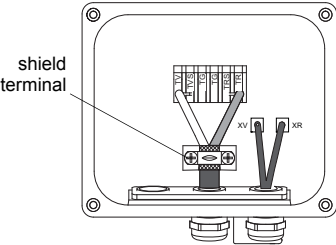
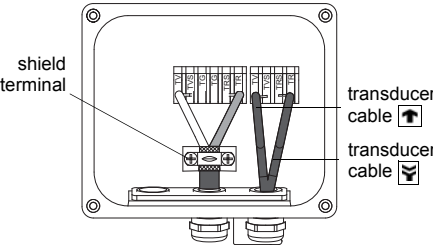

Fig. 5.7: Junction box JB02, JB03
Fig. 5.8: Junction box JBP2, JBP3
- Pull the extension cable back until the brushed back external shield is below the shield terminal of the junction box (see Fig. 5.7 or Fig. 5.8).
- Fix the extension cable and the external shield to the shield terminal of the junction box (see Fig. 5.7 or Fig. 5.8).
- Connect the leads to the terminals of the junction box (see Fig. 5.7 or Fig. 5.8 and Table 5.3).
- Remove the blind plug from the junction box (see Fig. 5.7).
- Connect the SMB connectors to the sockets of the junction box (see Fig. 5.7 and Table 5.4).
- Remove the blind plug from the junction box (see Fig. 5.8).
- Connect the leads to the terminals of the junction box (see Fig. 5.8 and Table 5.5).